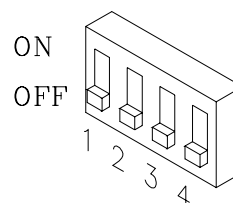

Fig 1
2. Using an insulated tool, turn DIP SWITCH 1 on (refer to figure 1).